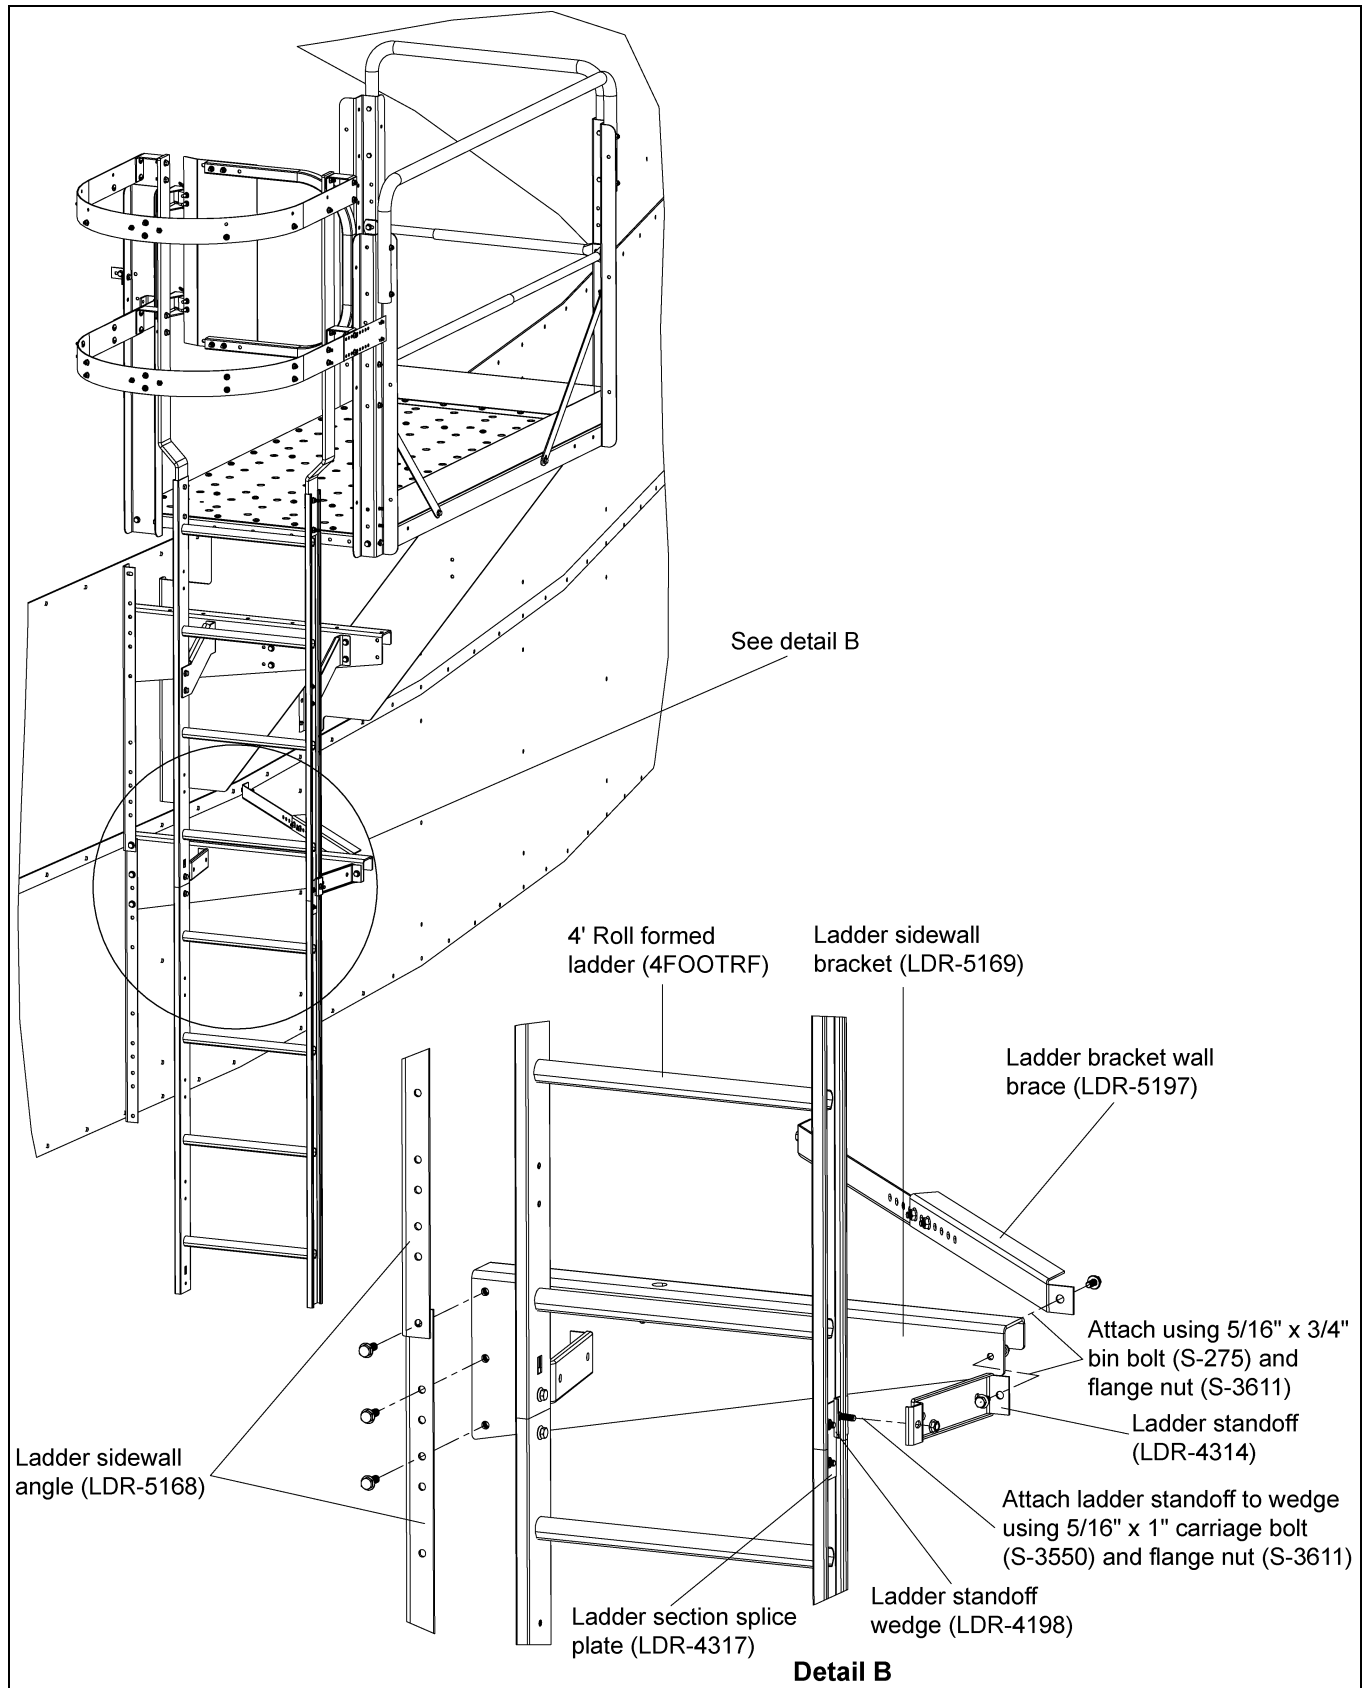

Figure 4W
1. Assemble the wall bracket to the wall angle using 3/8" hardware. (See Figure 4W on Page 35.)
Assemble the ladder standoff brackets to the ladder and wall bracket using the ladder standoff wedges and 5/16" hardware. (See Figure 4W on Page 35.)